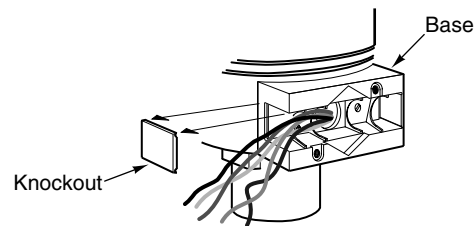

Figure-7 Removal of Knockout on Actuator Base.
2. Remove the knockout, using channel lock pliers, on the selected side of the actuator. Refer to Figure-7.